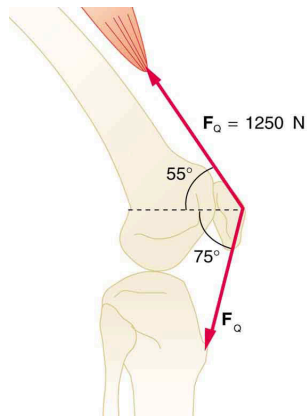

FIGURE 9.36 The knee joint works like a hinge to bend and straighten the lower leg. It permits a person to sit, stand, and pivot.
28. The upper leg muscle (quadriceps) exerts a force of 1250 N, which is carried by a tendon over the kneecap (the patella) at the angles shown in Figure 9.36. Find the direction and magnitude of the force exerted by the kneecap on the upper leg bone (the femur).